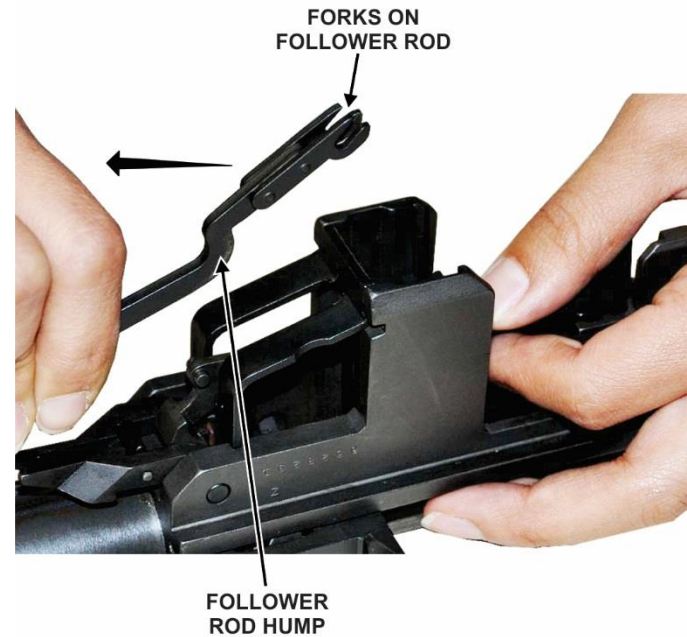
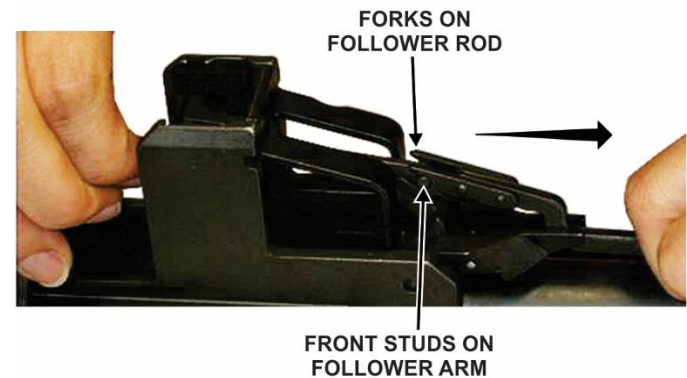

Figure 51. Orientation of follower rod
Figure 52. Insertion of operating rod spring
- 17) Grasp the follower rod, making sure that its hump is down toward the barrel (fig 51). Compress the operating rod spring and engage the forks of the follower rod with the front studs of the follower arm (fig 52). You may have to raise the follower assembly to do this.